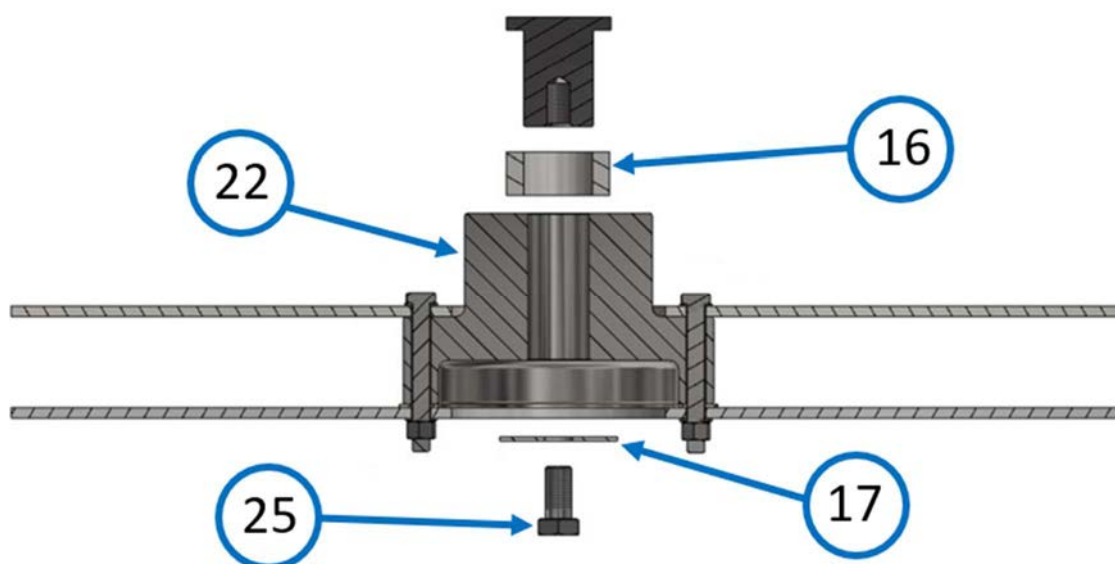
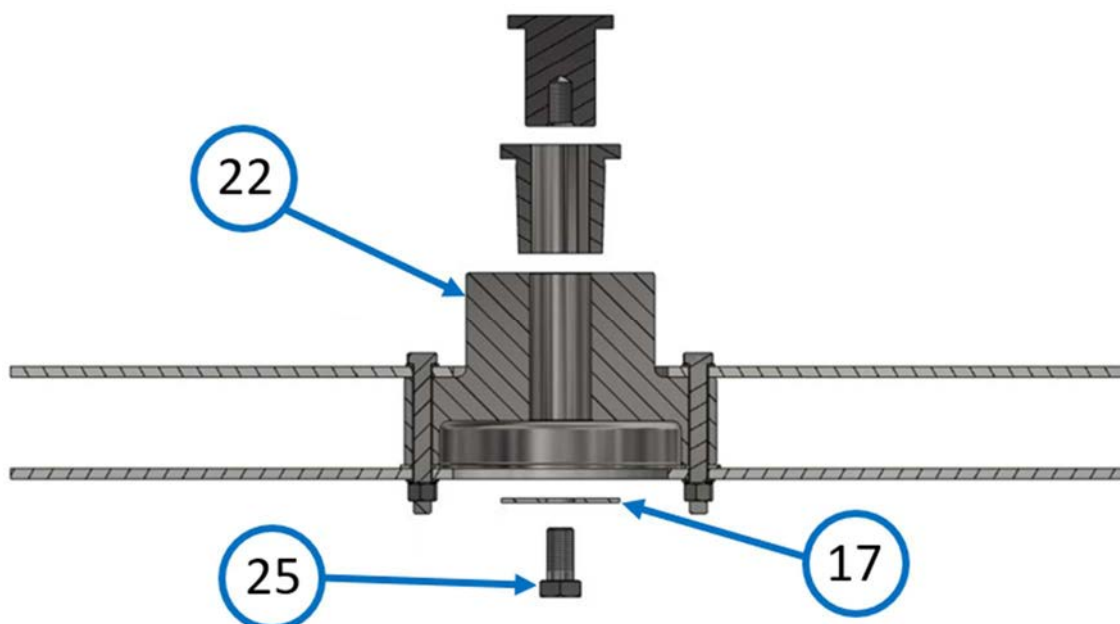

**Figure 2.15: installation of hub with internal hub boss and cylindrical bore**
Figure 2.16: installation of hub with internal hub boss and bushing
COFIMCO can supply two different types of hub with internal hub boss: with cylindrical bore (see figure 2.15) or with cylindrical bore for bush installation (see figure 2.16).
- 1) **Hub with internal hub boss with cylindrical bore:** anchored directly to the shaft that transmits the motion; for the procedure please refer to figure 2.15.
Put the washer [17] on the flange and tighten the bolt [25] to the shaft, as shown in figure 2.15.
- 2) **Hub with internal hub boss and bushing**: to fasten it refers to figure 2.16.